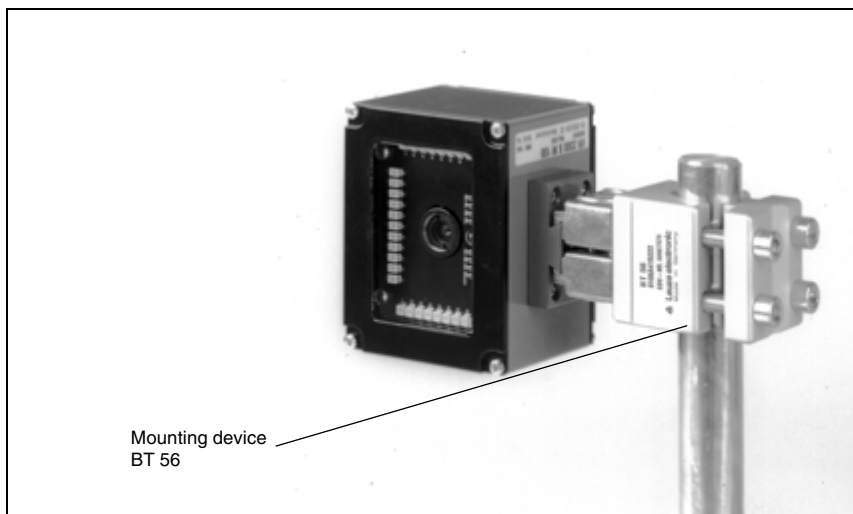

Figure 6.2: Mounting example VR 2300
- using the dovetail groove and the corresponding mounting accessories (see figure 6.2)